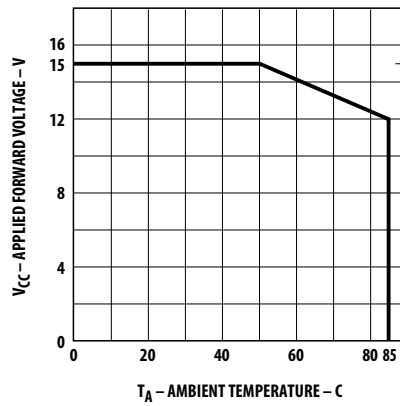

Figure 4. Maximum allowed applied forward voltage vs. ambient temperature $R\theta_{JA} = 175^{\circ}\text{C}/\text{W}$. 12 volt devices.
- Derate from $T_A = 50^\circ\text{C}$ at $0.086 \text{ V}/^\circ\text{C}$, see Figure 4.